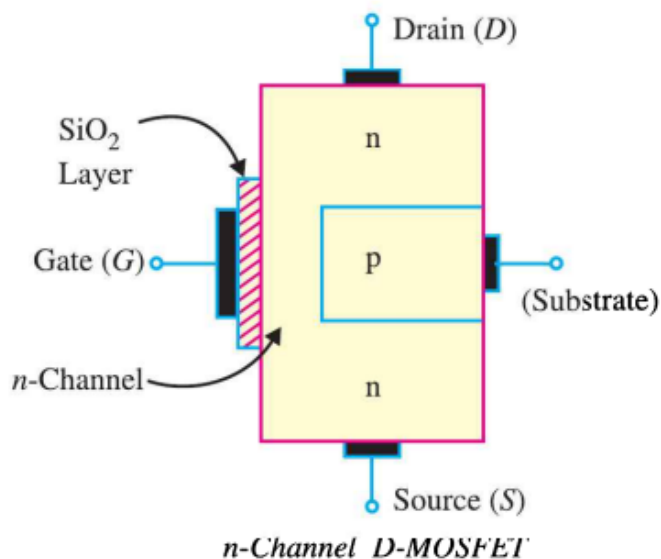

Fig. 19.43
1. D-MOSFET. Fig. 19.43 shows the constructional details of *n-channel D-MOSFET*. It is similar to *n-channel JFET* except with the following modifications/remarks :
(i) The *n-channel D-MOSFET* is a piece of *n*-type material with a *p*-type region (called *substrate*) on the right and an *insulated gate* on the left as shown in Fig. 19.43. The free electrons (\because it is *n*-channel) flowing from source to drain must pass through the narrow channel between the gate and the *p*-type region (*i.e.* substrate).